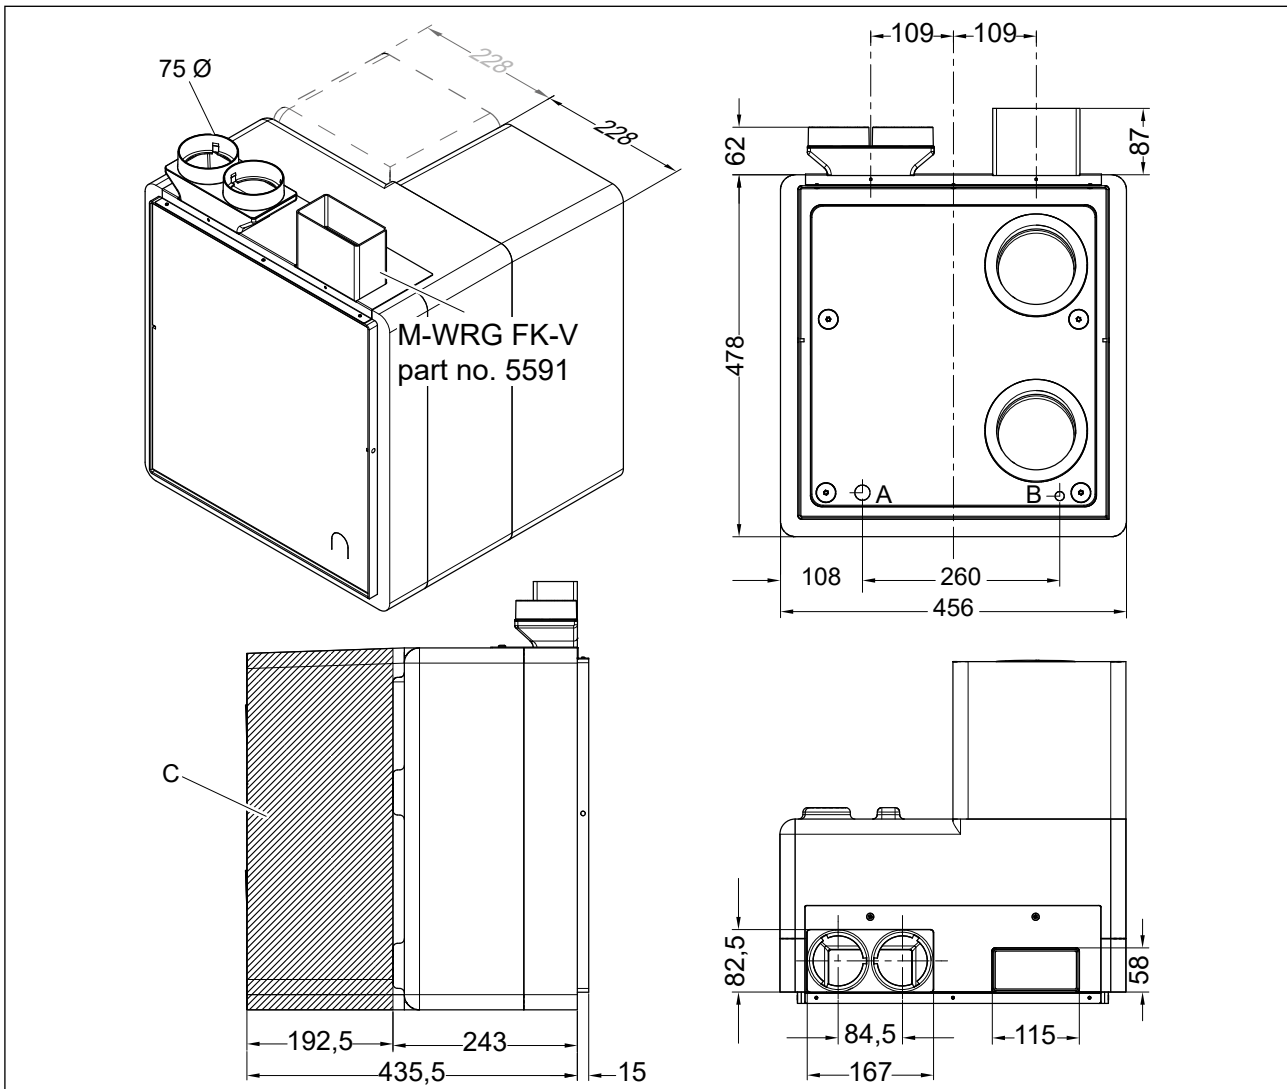

Fig. 8: Dimensions of the installation kit with optional filler piece in millimetres
Two flat ductwork connections **or** two flexible pipe connections **or** one flat ductwork connection and one flexible pipe connection may be used in the extract air and supply air openings. A configuration with flat ductwork (FK) and flexible pipe connection (diameter of 75 mm) was used in Fig. 8 to illustrate the dimensioning of the flat ductwork and flexible pipe connections.